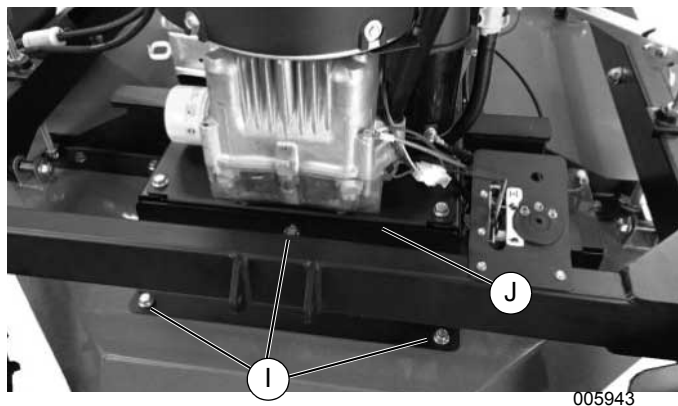

Figure 4-11. Belt Cover Removal
- See Figure 4-11. Use a 9/16" wrench to remove the three bolts (I) securing belt cover (J) and set the belt cover aside.